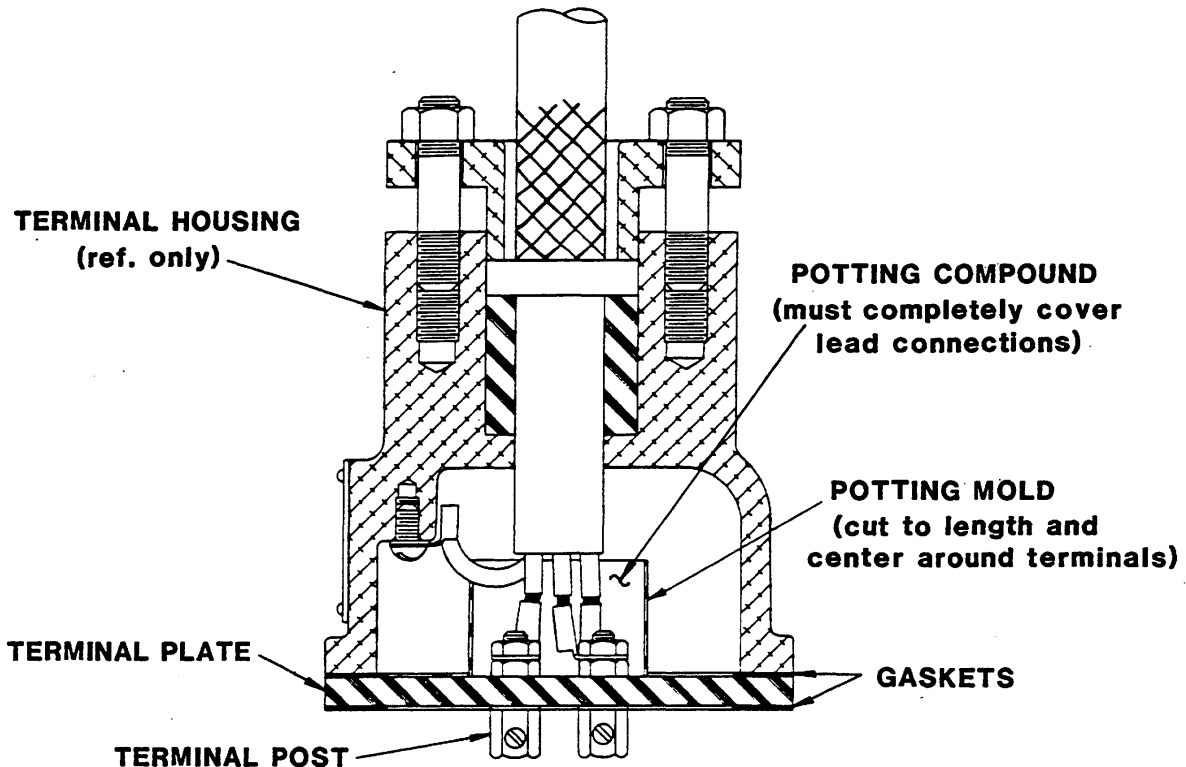

Figure 4. Potting Power Cable Leads In Terminal Housing
When shipped from the factory, the cable leads and terminals were encapsulated in heat-shrink tubing (42) and bonded to the terminal plate (48) with hot-melt adhesive to provide a water-tight seal. These materials are included in an optional repair kit listed in the parts list; however, since a glue gun with the required temperature range is not generally available in the field, it is recommended that a repotting kit available from Gorman-Rupp (see optional equipment in parts list) or a commercially available kit (Products Research Corp., part no. PR-1201-A Class 1 potting compound, or equivalent) be used to reseat the connections. See Figure 4, and the following instructions.